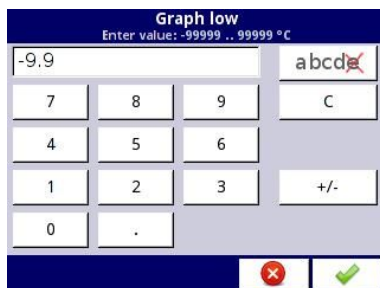

Fig. 7.6. Value editor – decimal form
- decimal form, see **Fig. 7.6**,